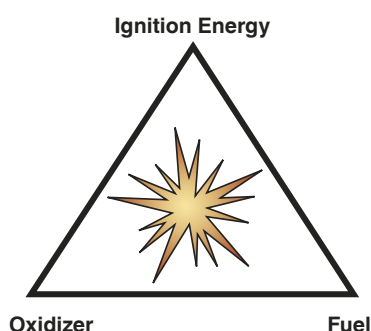

Figure 2 Ignition triangle
- These three components are identified in the ignition triangle displayed in Figure 2.